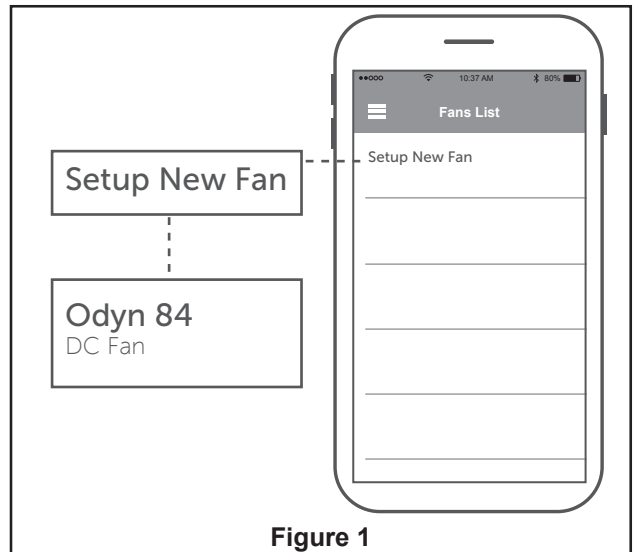

Figure 1
1. Open the fanSync app and tap the new fan to begin setup. (Figure 1)
1. **Installing Wall Holder:** (Figure 1)